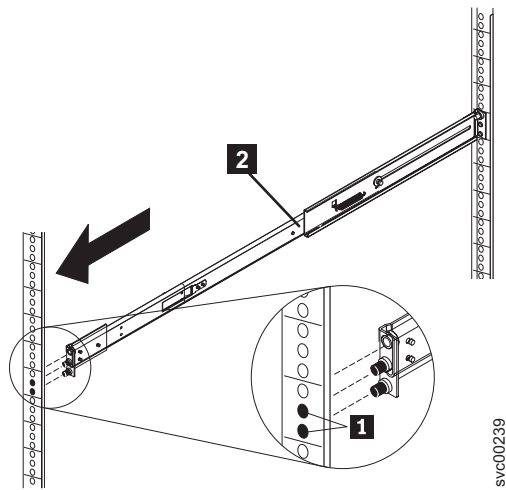

Figure 38. Extending the right slide rail
4. Extend the right slide rail **2** and insert it into the front rack mounting flange, as shown in Figure 38, with the rail pins **1** protruding through the flange. Insert the left slide rail in the same way.